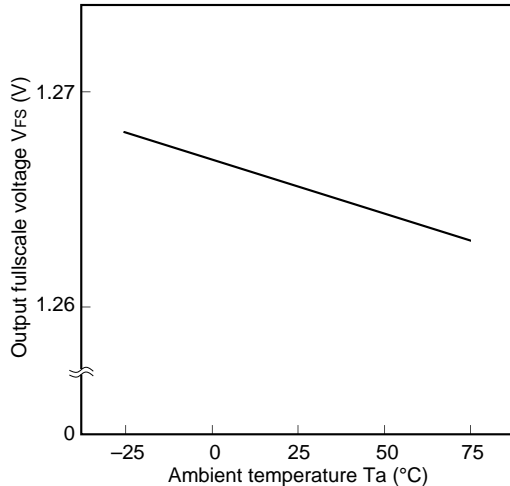

Fig. 3. Ambient temperature vs. Output full scale voltage
- $T_a=25\text{ }^\circ\text{C}$  (Except Fig. 3)
- Fig. 3 is input data=all 1